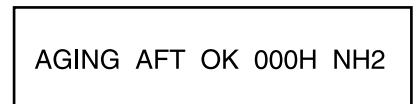

Fig. 1
- Press the "TEST" key on the jig remote controller once to enter to the "Aging Mode" (Refer Fig. 1).
(Refer to Fig. 1)